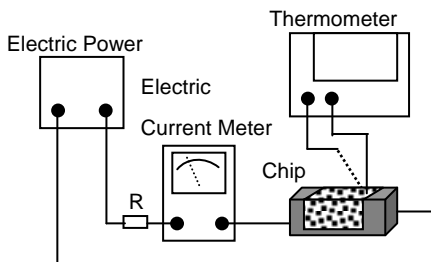

Fig. 5.3.5-1
- d. Definition of Rated Current (Ir): IDC is direct electric current as chip surface temperature rose just 20°C against chip initial surface temperature(Ta) (see **Fig. 5.3.5-2**).